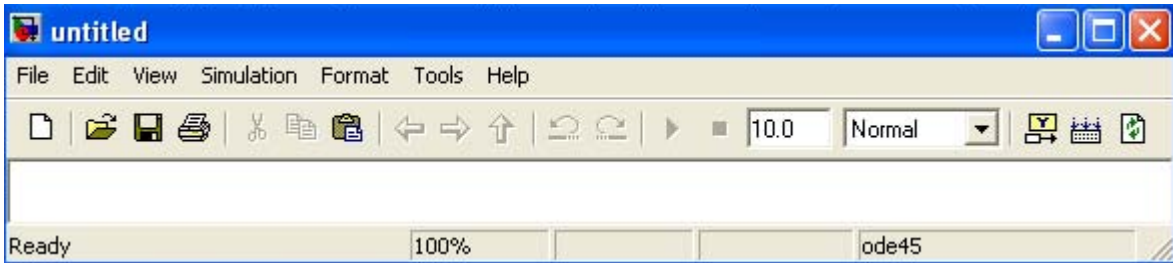
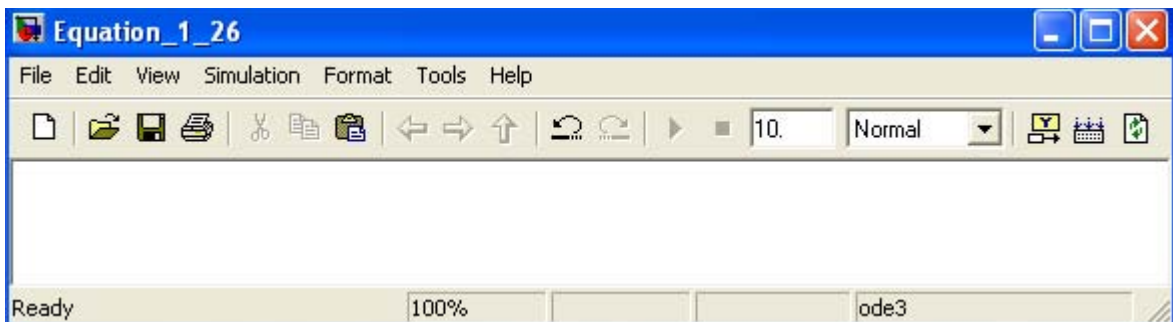

Figure 1.6. The Untitled model window in Simulink.
Figure 1.7. Model window for Equation_1_26.mdl file
1. On the **Simulink Library Browser**, we click the leftmost icon shown as a blank page  on the top title bar. A new model window named **untitled** will appear as shown in Figure 1.6.
The window of Figure 1.6 is the model window where we enter our blocks to form a block diagram. We save this as model file name **Equation_1_26**. This is done from the **File** drop menu of Figure 1.6 where we choose **Save as** and name the file as **Equation_1_26**. Simulink will add the extension **.mdl**. The new model window will now be shown as **Equation_1_26**, and all saved files will have this appearance. See Figure 1.7.